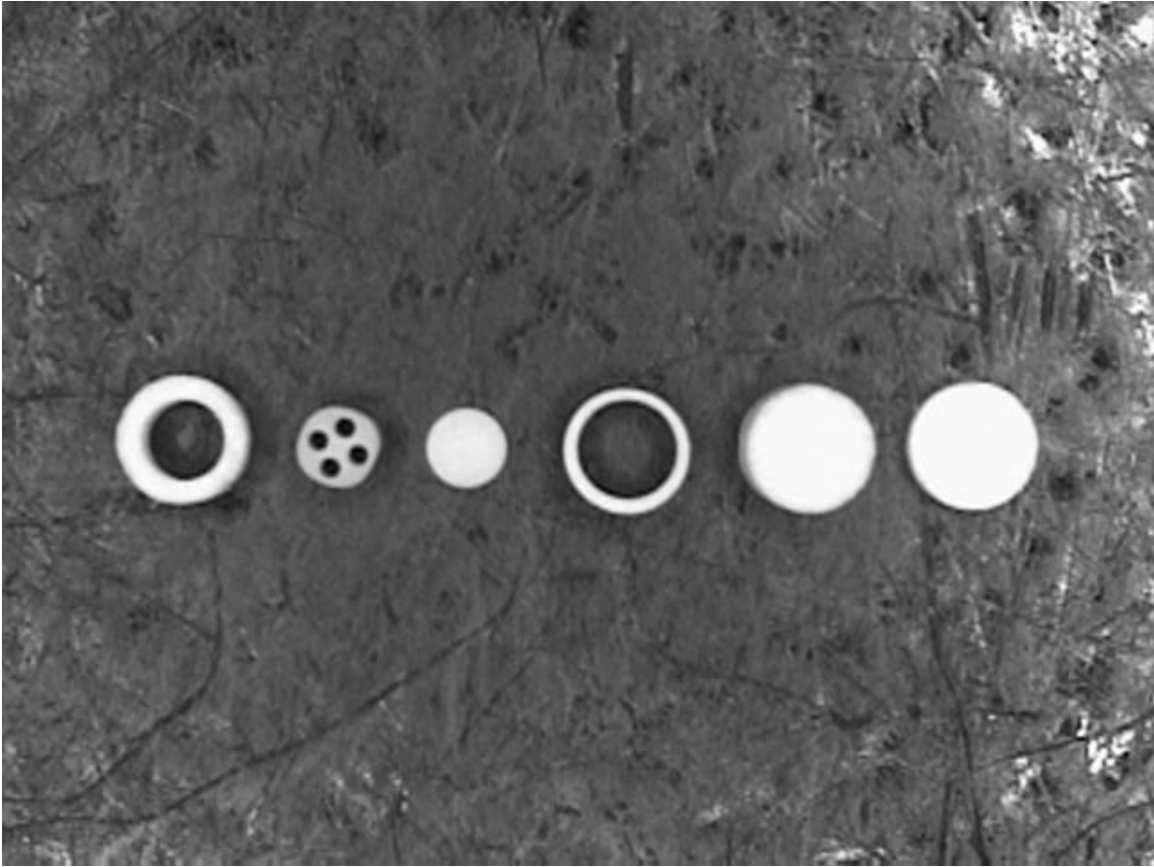

*Figure 4: Cementing part (2). Cement the inner part and scrape the cement off the rhenium tabs.*
5. Mix another batch of Cotronics 940 cement and fill in the rest of the thermocouple groove and the middle hole, working the cement into all the spaces with a toothpick (note the cement should not be runny). Clean the cement off the rhenium tabs with a razor blade and/ or needle, and remove excess cement to again restore the shape of the original octahedron (Figure 4). Make sure the elevation of the rhenium tabs is higher than the cement, so the cement does not flow over the rhenium tabs during compression and block the furnace current.